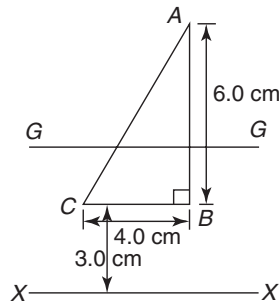

Figure 7.42
9. The second moment of area about axis XX of the triangle ABC shown in Figure 7.42 is:
10. The radius of gyration about axis GG of the triangle shown in Figure 7.42 is: